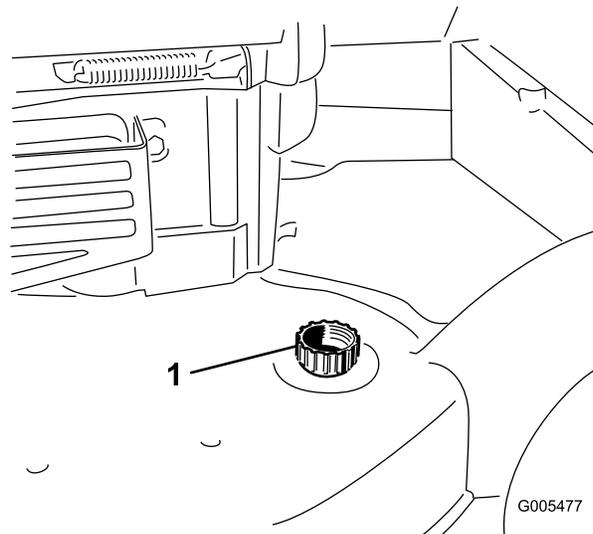

**Figure 45**
3. Remove the 2 blade nuts and the stiffener (Figure 45).
4. Remove the blade (Figure 45).
5. Remove the blade driver and disk (Figure 45).
6. Remove the blade brake clutch shield (Figure 45).
10. Install the blade and the stiffener that you previously removed (Figure 45).